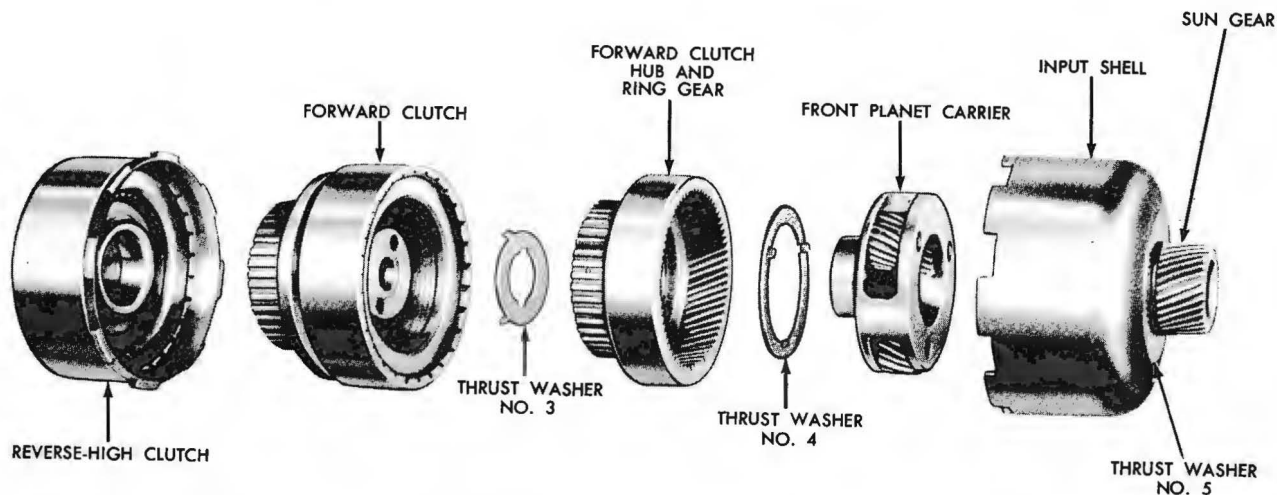

FIG. 14—Forward Part of Gear Train Disassembled
- ⊗ Remove the reverse-high clutch drum from the forward clutch. (Fig. 14).
- ⊗ Remove the forward clutch from the forward clutch hub and ring gear. (Fig. 14).
- ⊗ Remove thrust washer #3 from the forward clutch hub if it did not come out with the forward clutch. (Fig. 14).
- ⊗ Remove the forward clutch hub and ring gear from the front planet carrier. (Fig. 14).